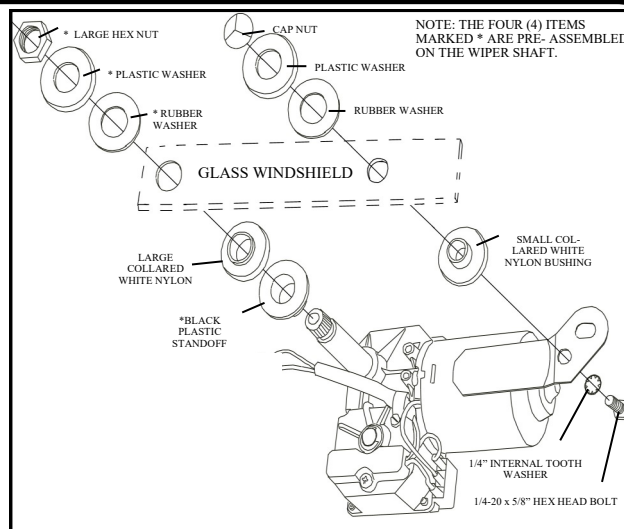

Figure 10.2: Wiper Motor Installation
- 10.2 From inside of cab, insert motor shaft through the larger hole in the windshield until the white nylon bushing is against the windshield. Replace the rubber washer, plastic washer and hex nut on the outside of the windshield. **(Figure 10.2)** Do not tighten completely at this time.
- 10.3 From inside, put small white nylon bushing with the collar into the small hole in the windshield and pivot the wiper motor so that the small hole aligns with the hole in the bushing. Insert the 1/4-20 bolt through the internal tooth washer, the hole in the wiper motor bracket, the small bushing, and finally the windshield. Next install the rubber washer, plastic washer, and cap nut on outside of windshield. **(Figure 10.2)**